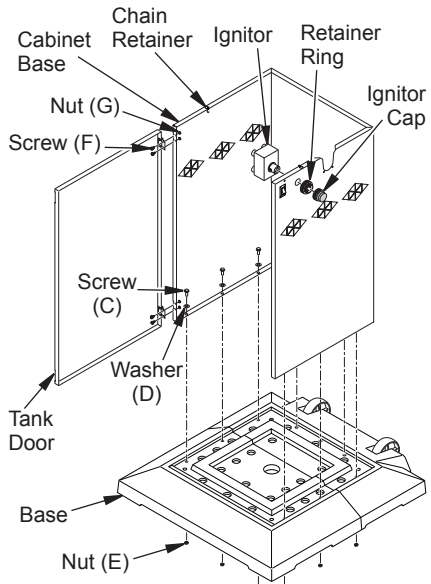

Figure 4 - Cabinet Base Assembly
3. Being careful not to scratch paint, lay cabinet base onto back side (use foam packaging block to support rear top of cabinet base). Align holes in bottom edges of cabinet base with holes in base as shown in Figure 4. Attach with 1 screw
- (C), 1 washer (D) and 1 nut (E) for each of the 9 holes (see Figure 4). Set assembly upright.
4. Install chain retainers ("S" hooks) to upper edges of cabinet base as shown in Figure 4.
5. Install electronic ignitor through cabinet wall as shown in Figure 4. Hand tighten.
6. Attach tank door to cabinet with 4 screws (F) and 4 nuts (G) as shown in Figure 4. Set entire assembly aside.